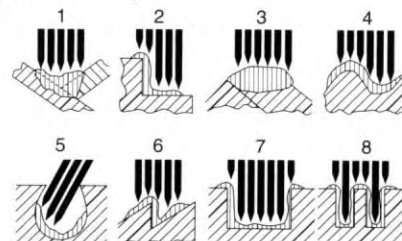

Fig.3
(2) Remove the Snap Ring by pinching the projected hooks.
(3) Then you can take off the Needle Supporter together with other parts by pulling out the edge of needles. (Fig.3)